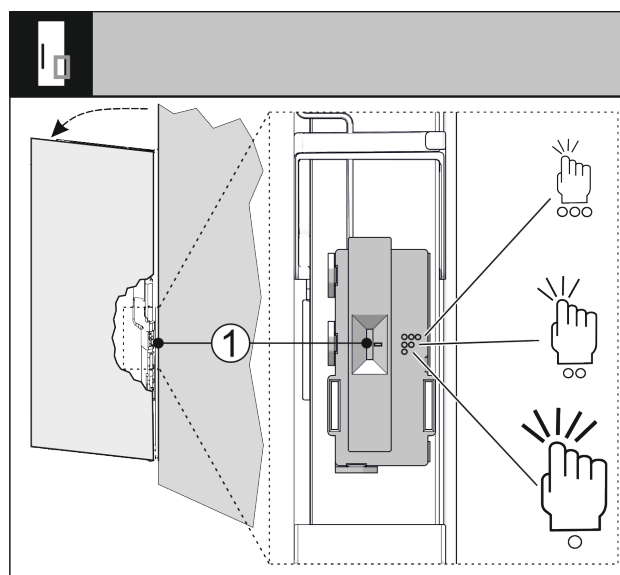

Fig. 35
You can use a switch Fig. 35 (1) to adjust the sensitivity of the knocking sensor. The switch is on the bottom third of the door on the hinge side.
- ▶ Move the switch Fig. 35 (1) to the required switch position.